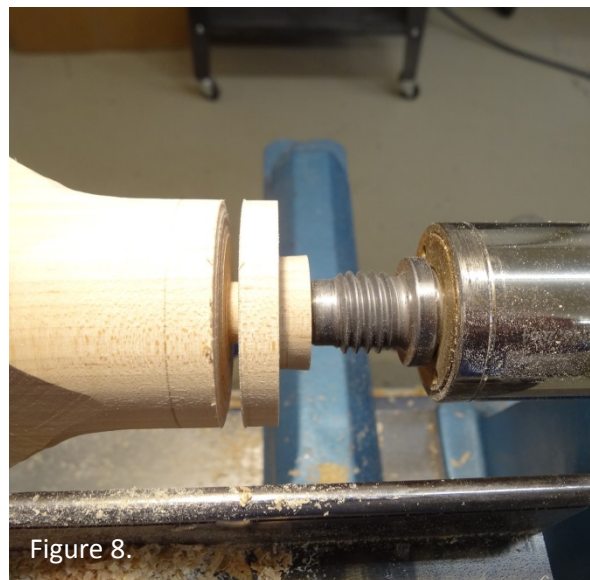

Figure 8.
6. Chuck a hardwood turning blank and turn it round to a 2" diameter. Drill a small hole slightly more than 1" deep down the center. Turn a tenon 1" in diameter  $\frac{1}{4}$ " long on the end. Part off the piece at  $\frac{1}{2}$ " so you have a  $\frac{1}{2}$ " high "hat" with a  $\frac{1}{4}$ " thick 2" diameter "brim" and a  $\frac{1}{4}$ " high, 1" diameter "crown" with a hole through the center. See Figure 8. Chuck by the 1" tenon and flatten the 2" face. **This is the pendant mount.**